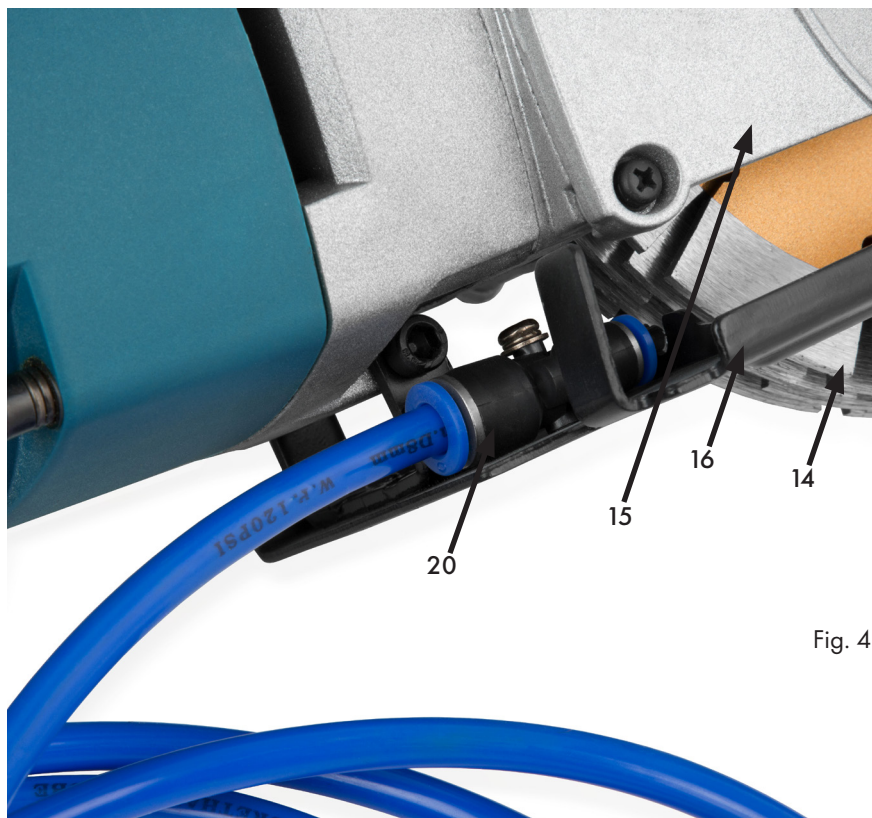

Fig. 4
Figure 4 shows the lower cutting head including the water connection.
**Legend Figure 4**